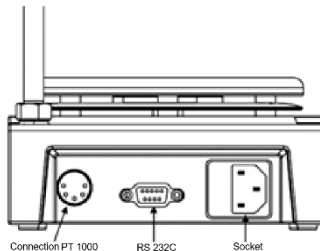

Figure 6
- The functions of the interface lines between laboratory instrument and automation system are selected from the specified signals of the EIA standard RS232C, corresponding with DIN66020 Part 1. The allotment of the bushing can be taken from Figure 6.